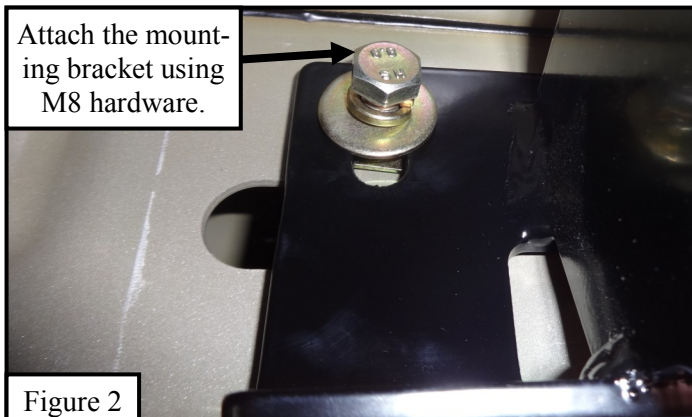

Figure 2
3. Take the drivers side front mounting bracket (Item 3), and attach it to the previously installed M8 extruded u-nut using (2) M8 hex cap screws (Item 8), (2) M8 lock washers (Item 11), and (2) large M8 flat washers (Item 10). Do not fully tighten at this time, the cradles will face the rear of the vehicle. See **Figure 2**.